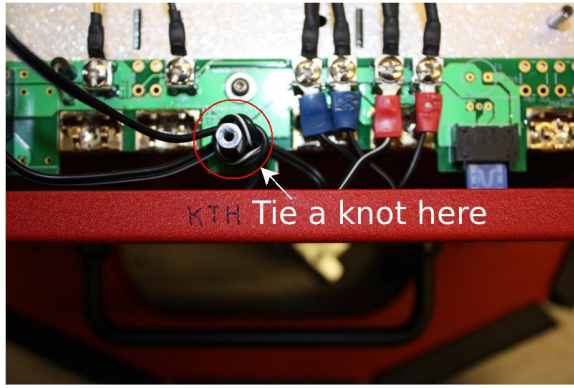

Figure 24: Power cable attachment
9. Next, fix the 2 power supply cables with the 2.1mm power plugs at one end and red/blue cable shoes at the other end (figure 24). Make sure you attach the polarities properly. Red is positive, blue is negative. Once you fix the cable shoes, loop the cables around stud shown in the figure and tie it there with a knot. This will ensure that if someone pulls at the cables later on, the knot will take the load and the cable shoes will not slip off from the connections.